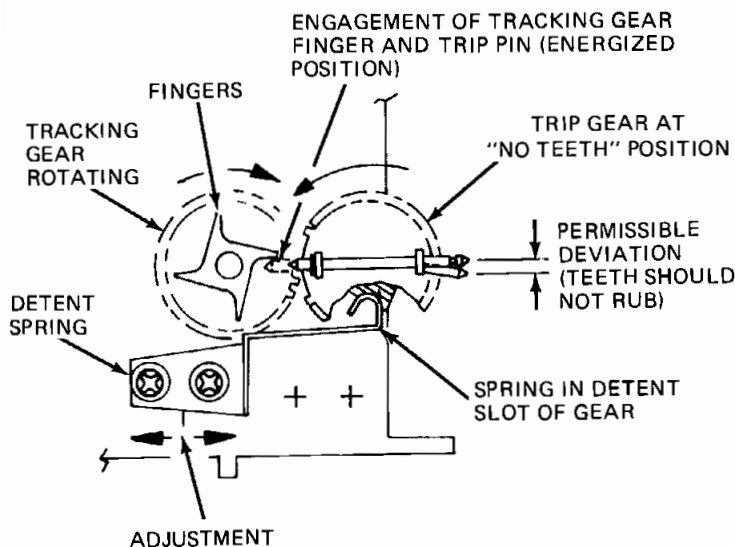
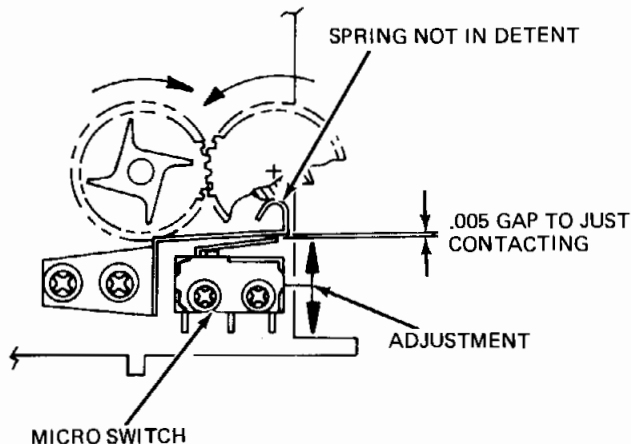

Figure 10b.
Figure 10d. Detent spring/microswitch adjustment
1. Adjust the detent spring so that when the tab on the lever is engaged in the detent (indentation) of the trip gear, the trip pin is horizontal to slightly off horizontal in a clockwise direction. The teeth on the tracking gear should not rub the trip gear teeth. Tighten the two screws. (fig. 10b)
2. Position the microswitch so that the leaf spring just contacts the detent spring when the trip gear is rotated CCW slightly out of the detent position. (fig. 10d). Tighten the two screws. Check by rotating the trip gear CCW until the cam portion moves the detent spring and, in turn, actuates the switch and a "click" is heard. Continue rotating CCW until back in the detent position and another "click" is heard. (fig. 10b).